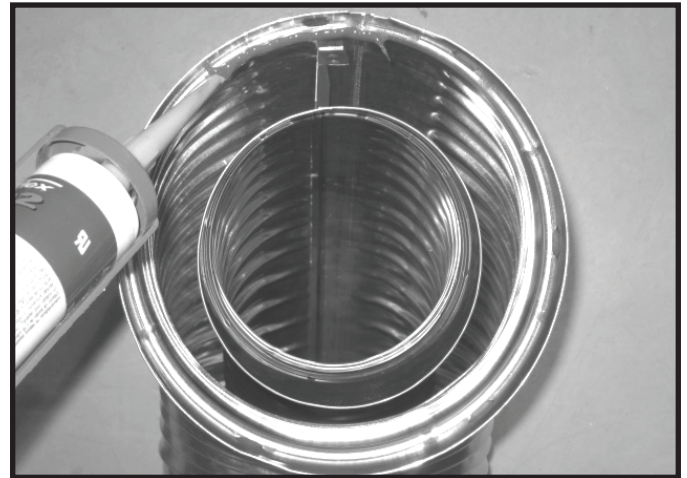

Figure 7.1 High Temperature Silicone Sealant
- Apply a bead of silicone sealant (300° F minimum continuous exposure rating) inside the female outer pipe joint prior to joining sections. See Figure 7.1. **OR**